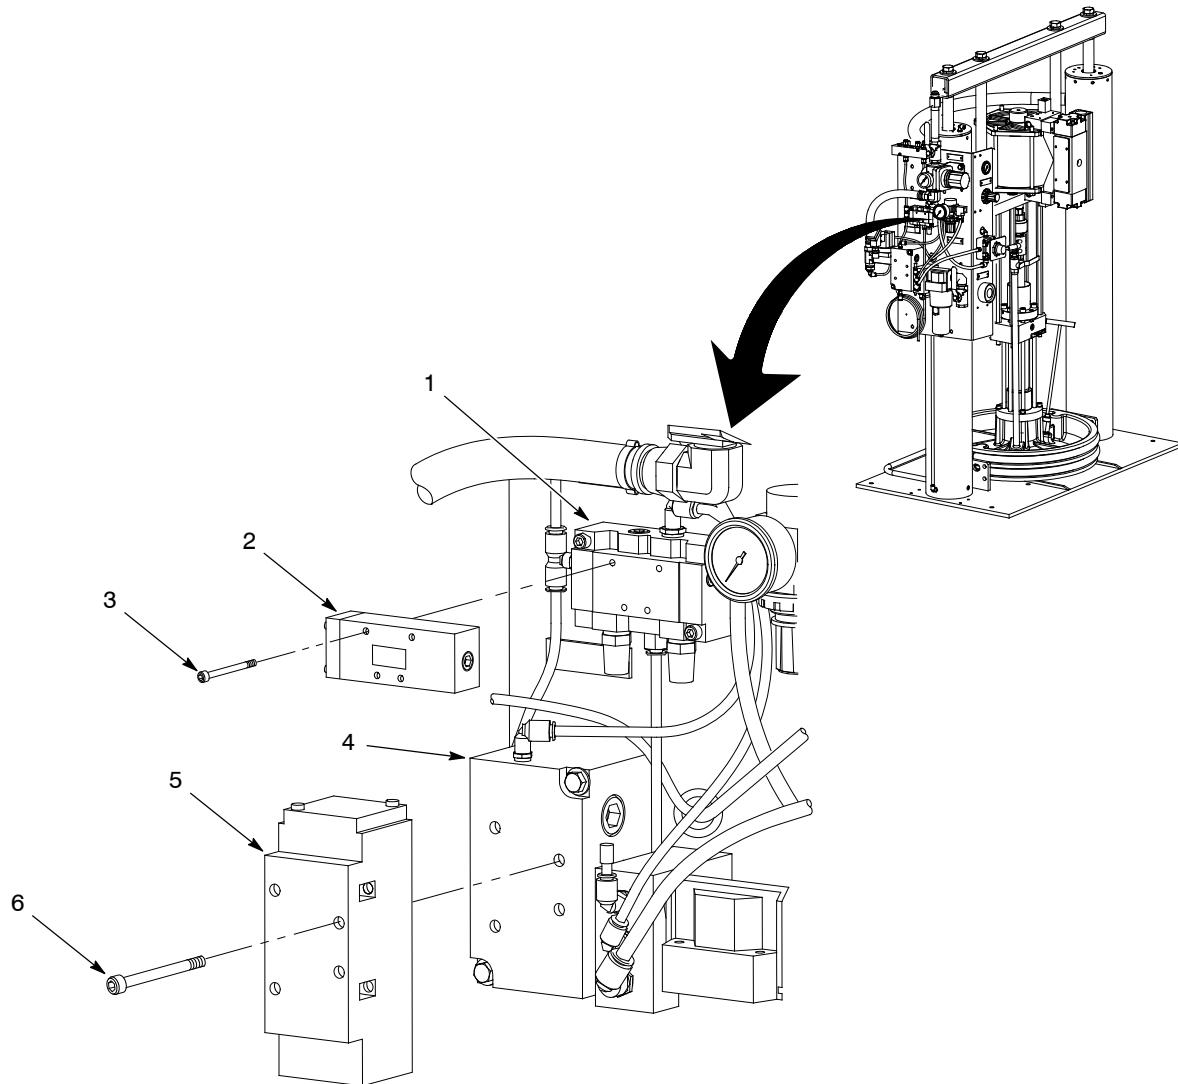

Figure 7 Typical Air Motor Control Valve and Air Logic Valve Installation
See Figure 7. Install the desired air motor control valve (5) to the valve manifold base (4) using the screws (6). Tighten the screws securely.
See Figure 7. Install the desired air logic valve (2) to the air logic valve manifold base (1) using the screws (3). Tighten the screws securely.